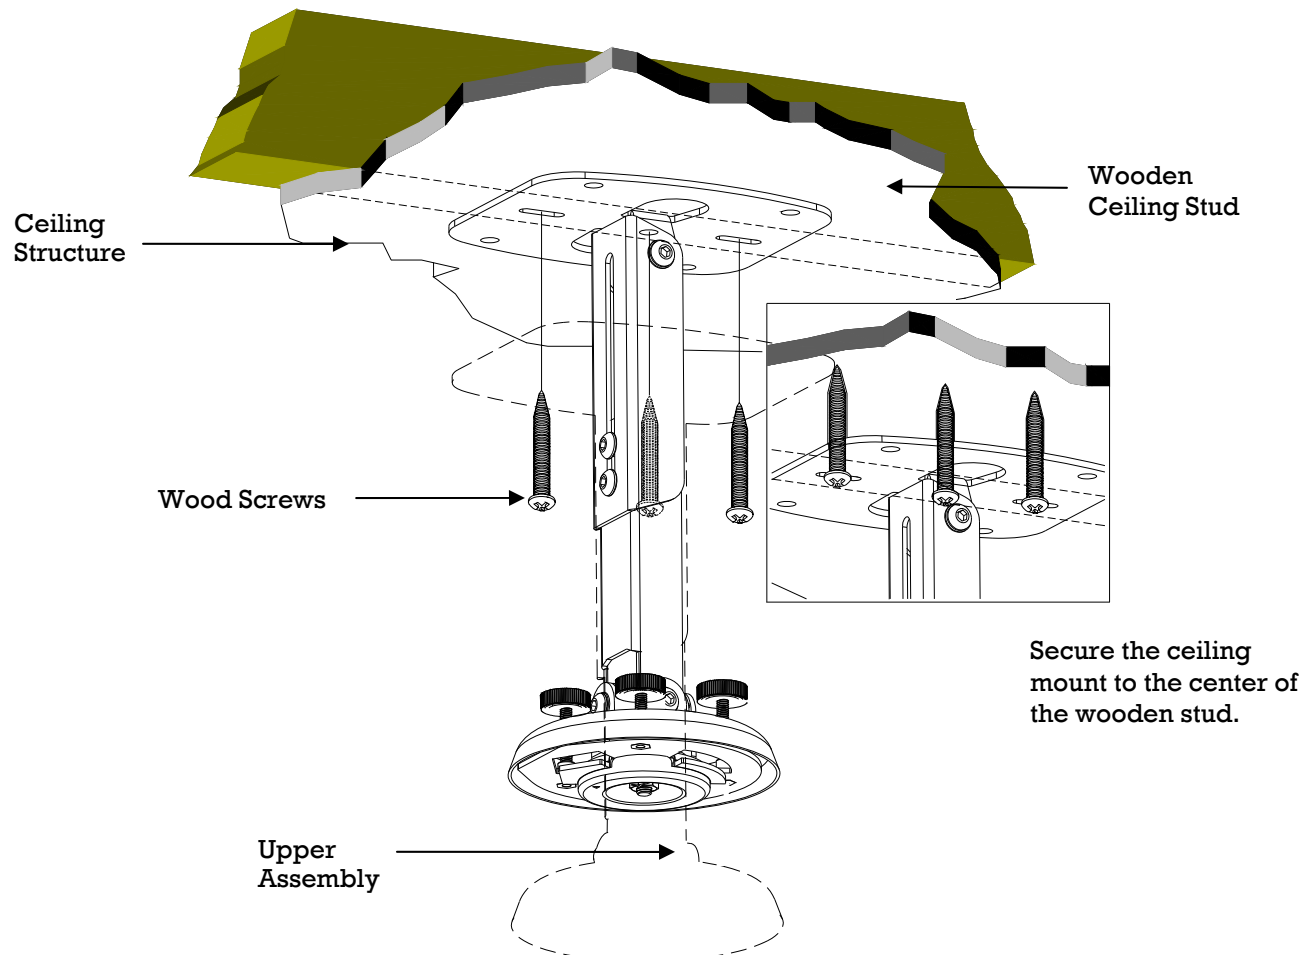

Figure 5. Securing the Upper Assembly Ceiling Plate
Step 1. Secure the ceiling assembly into a solid wood ceiling stud with the three (3) #14 x 2" wood screws (supplied) or with other (commercially available) hardware depending on your installation environment (Figure 5).